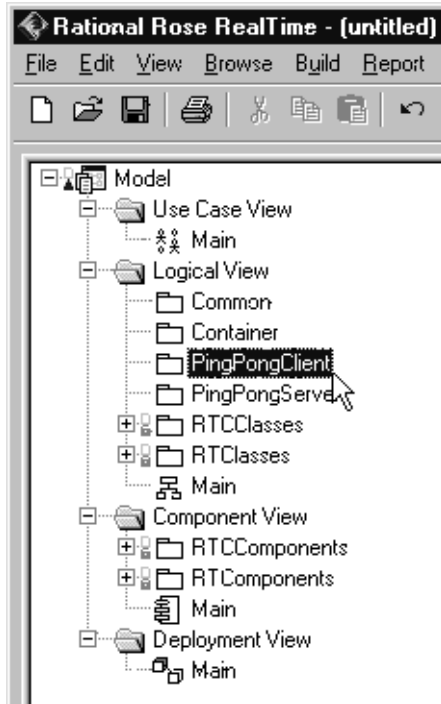

Figure 10 Creating a new capsule
1. Select the PingPongClient package as shown in Figure 10.